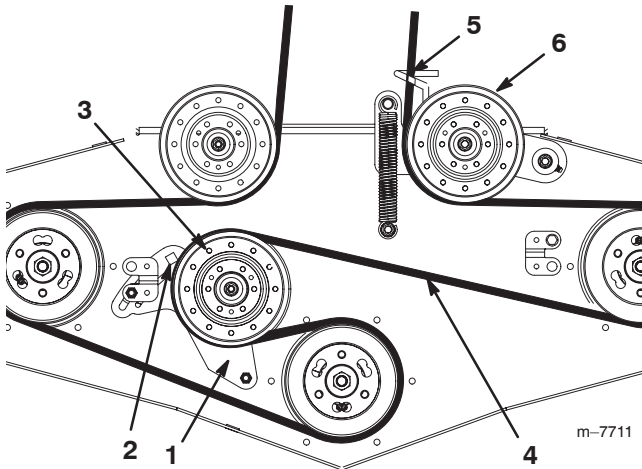

Figure 56
- Loosen the fixed idler arm and adjust it to relieve the belt tension on the fixed idler pulley (Fig. 56).
- Install the new belt through the belt guide and on the pulleys (Fig. 56).